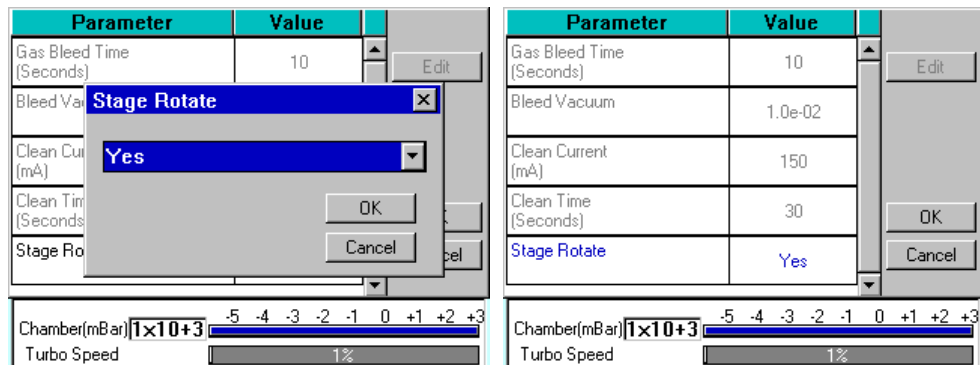

Figure 3-6. Changing the Stage Rotate system property
5. Tap on the value of the system property you want to change (in this case, *Stage Rotate*). Amend the setting as required and confirm the change by tapping on the **OK** button. Tap on the **Cancel** button to cancel any change (see Figure 3-6).